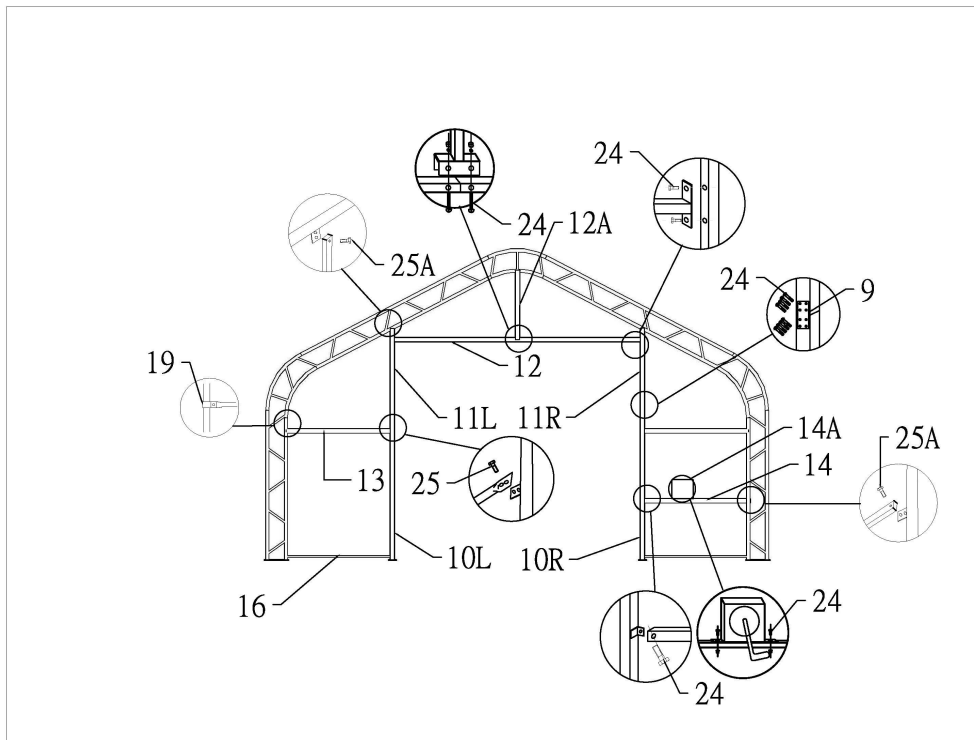

Figure 6: Front and Back door
1. Figure 6 shows to assemble the door frame.